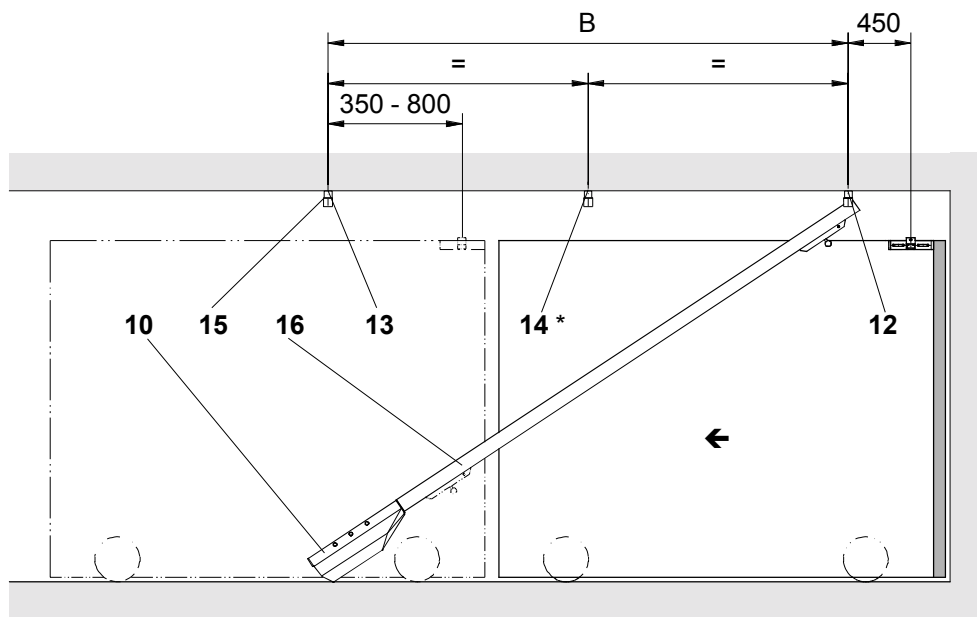

Fig. 7
- Mount the suspension angle (15) loosely to the ceiling.
- Insert the sliding nuts in front into the aluminium profile (16), spacing them in accordance with the suspension angles (15).
- Lift up the aluminium guideway profile (16) in front and screw it down to the suspension angle (15), next to mounting hole (12). Fig. 7